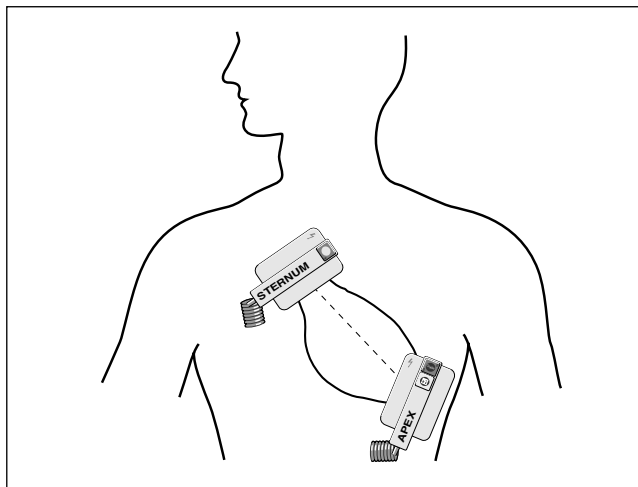

Figure 4-3. Paddle application points
- * Apply the electrodes to the patient's thorax so that the greatest possible amount of energy flows through the myocardium (the imaginary connecting line between the two electrode centers should be identical with the cardiac median line; Figure 4-3).